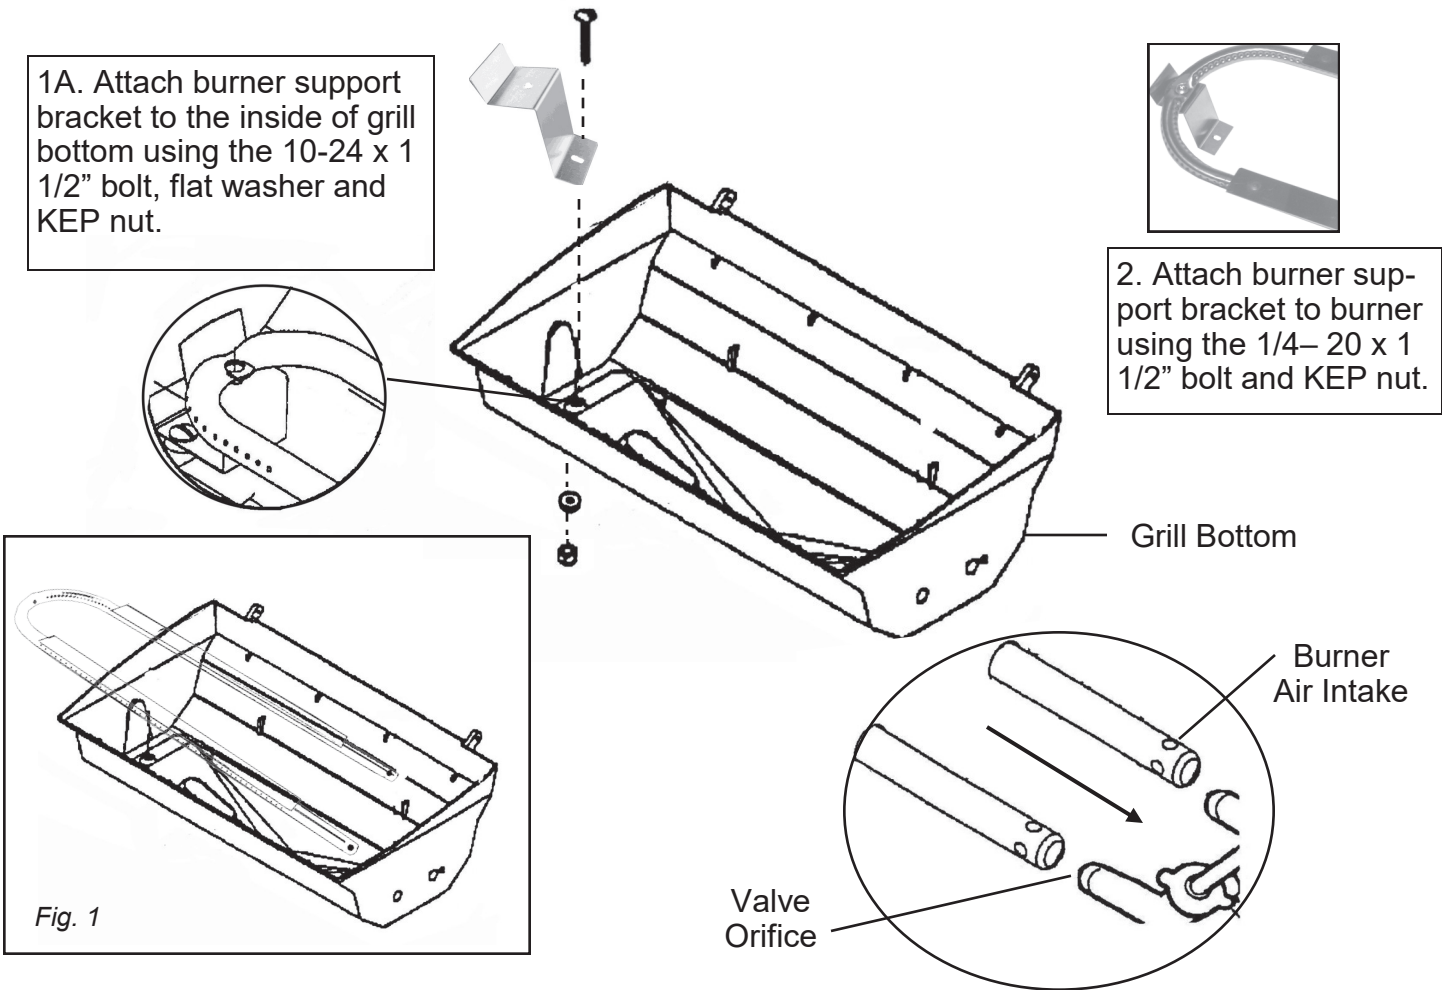

Fig. 1
1. Insert the Burner into the Bottom grill casting as shown (Fig. 1). Position the Burner over the valve orifices and secure Burner to the grill bottom. **IMPORTANT:** The burner tube must go over the valve orifices at least 3/8". The burner bracket to casting connection is slotted to offer some adjustment.